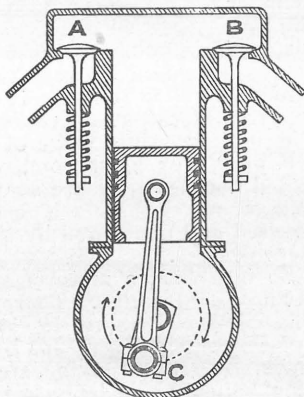
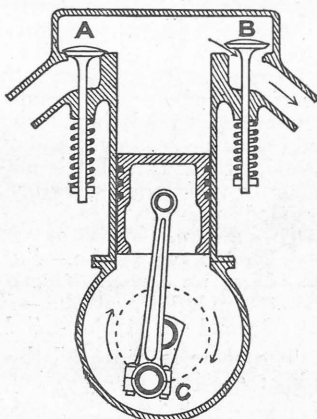

Fig. 2.
Fig. 4.
Now, we will suppose the engine to be turning round in the direction shown by the arrows. The crankpin (C) is just past the top of its stroke, but after half a turn it will be in the position shown in Fig. 2, and the piston will have made one down stroke and is just starting to move up again. The valve (A) is now shown closed, the mechanism by which it was held open having released it at the end of the down stroke. It will be understood now that the piston has sucked in air through the valve (A), which is called the
The engine now comes to the position shown in Fig. 4, the same as in Fig. 2, except that the cylinder is now full of burnt gas, or *exhaust*, as it is called, instead of an inflammable mixture. The next thing to do is to get rid of the "exhaust," and to do so the "exhaust valve" (B) is used. It is opened at the end of the firing stroke, and is shown open in Fig. 4. Again, we will not worry about the way this valve is opened, but will only say that it is done in the same way as the valve (A). Now the piston begins to move upwards, and in doing so forces the "exhaust" out through the open exhaust valve. This is what is known as the *exhaust stroke*.